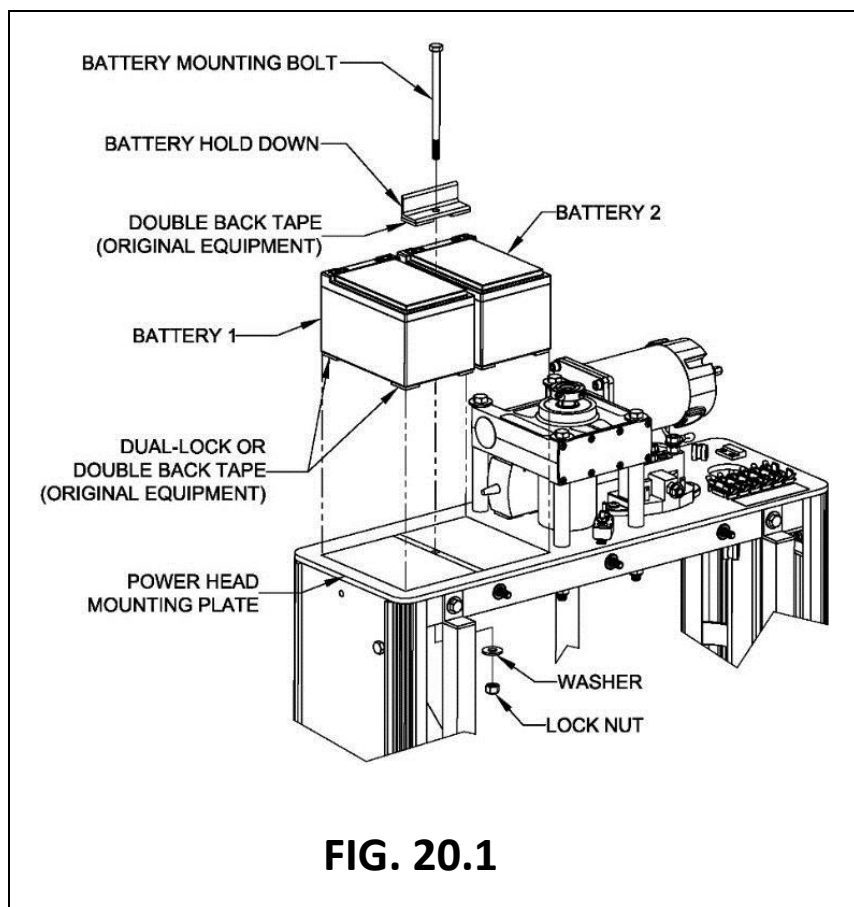

FIG. 20.1
20.2.2. Remove locknut, washer, and battery mounting bolt (FIG. 20.1). Set aside for reuse.
20.3.2. Insert bolt (removed earlier) through battery hold down, between batteries, and through power head mounting plate (FIG. 20.1).